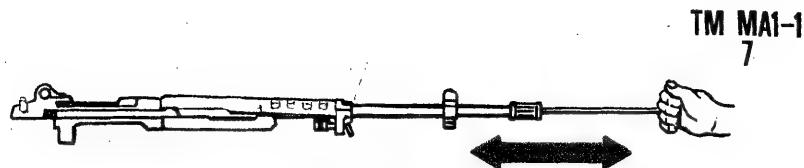

Figure 25.
2. Insert a clean cloth patch which has been soaked in powder solvent into the muzzle with the cleaning rod. Move the patch forward and back several strokes of the cleaning rod. A .22 Caliber brass or bronze wire brush attached to the cleaning rod should then be pushed completely through the bore and back several times. Again swab the bore with a solvent soaked patch. Then wipe the cleaning rod clean and, using a clean, dry patch, thoroughly swab the bore until it is clean. Examine the bore visually to be sure that no fouling remains. (See Figure 25)